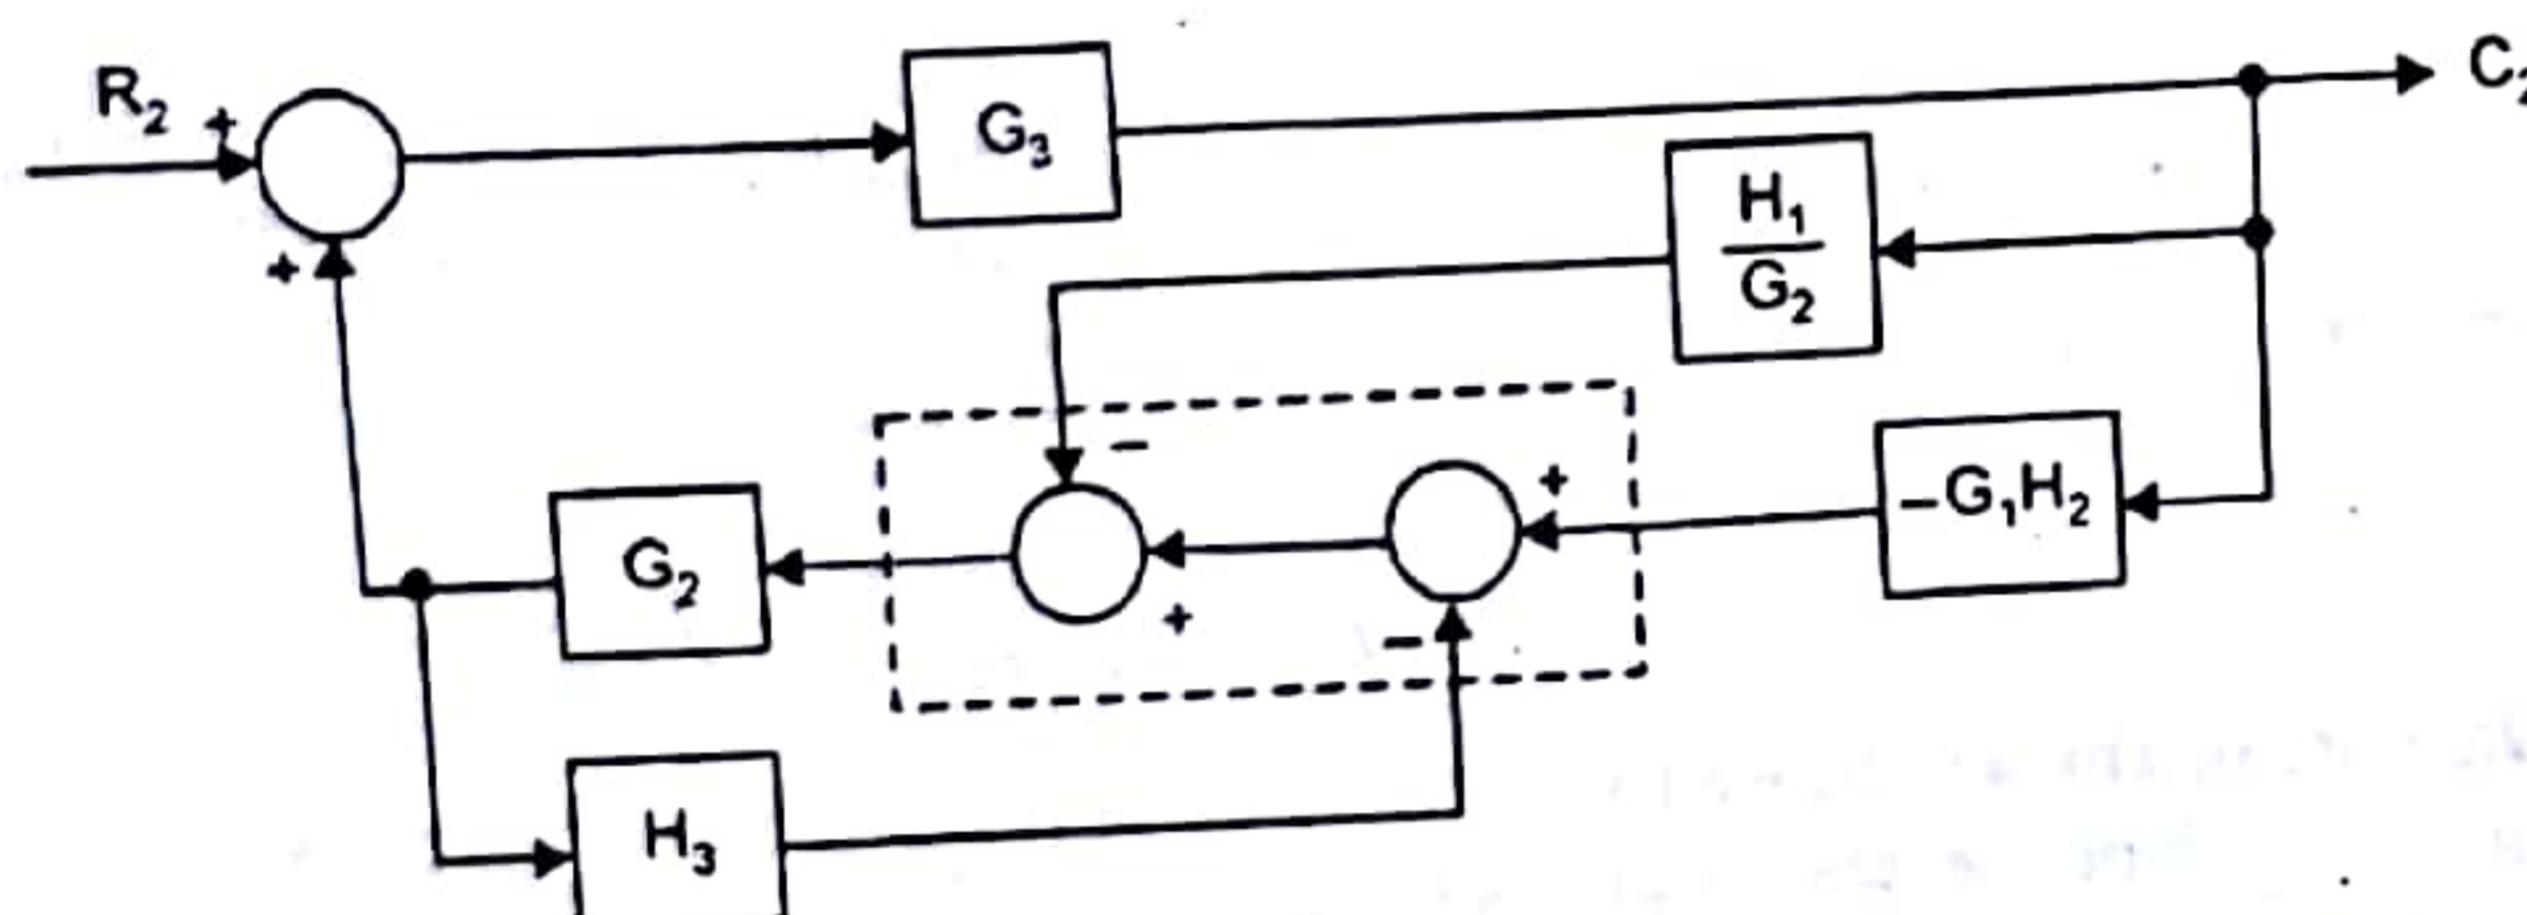
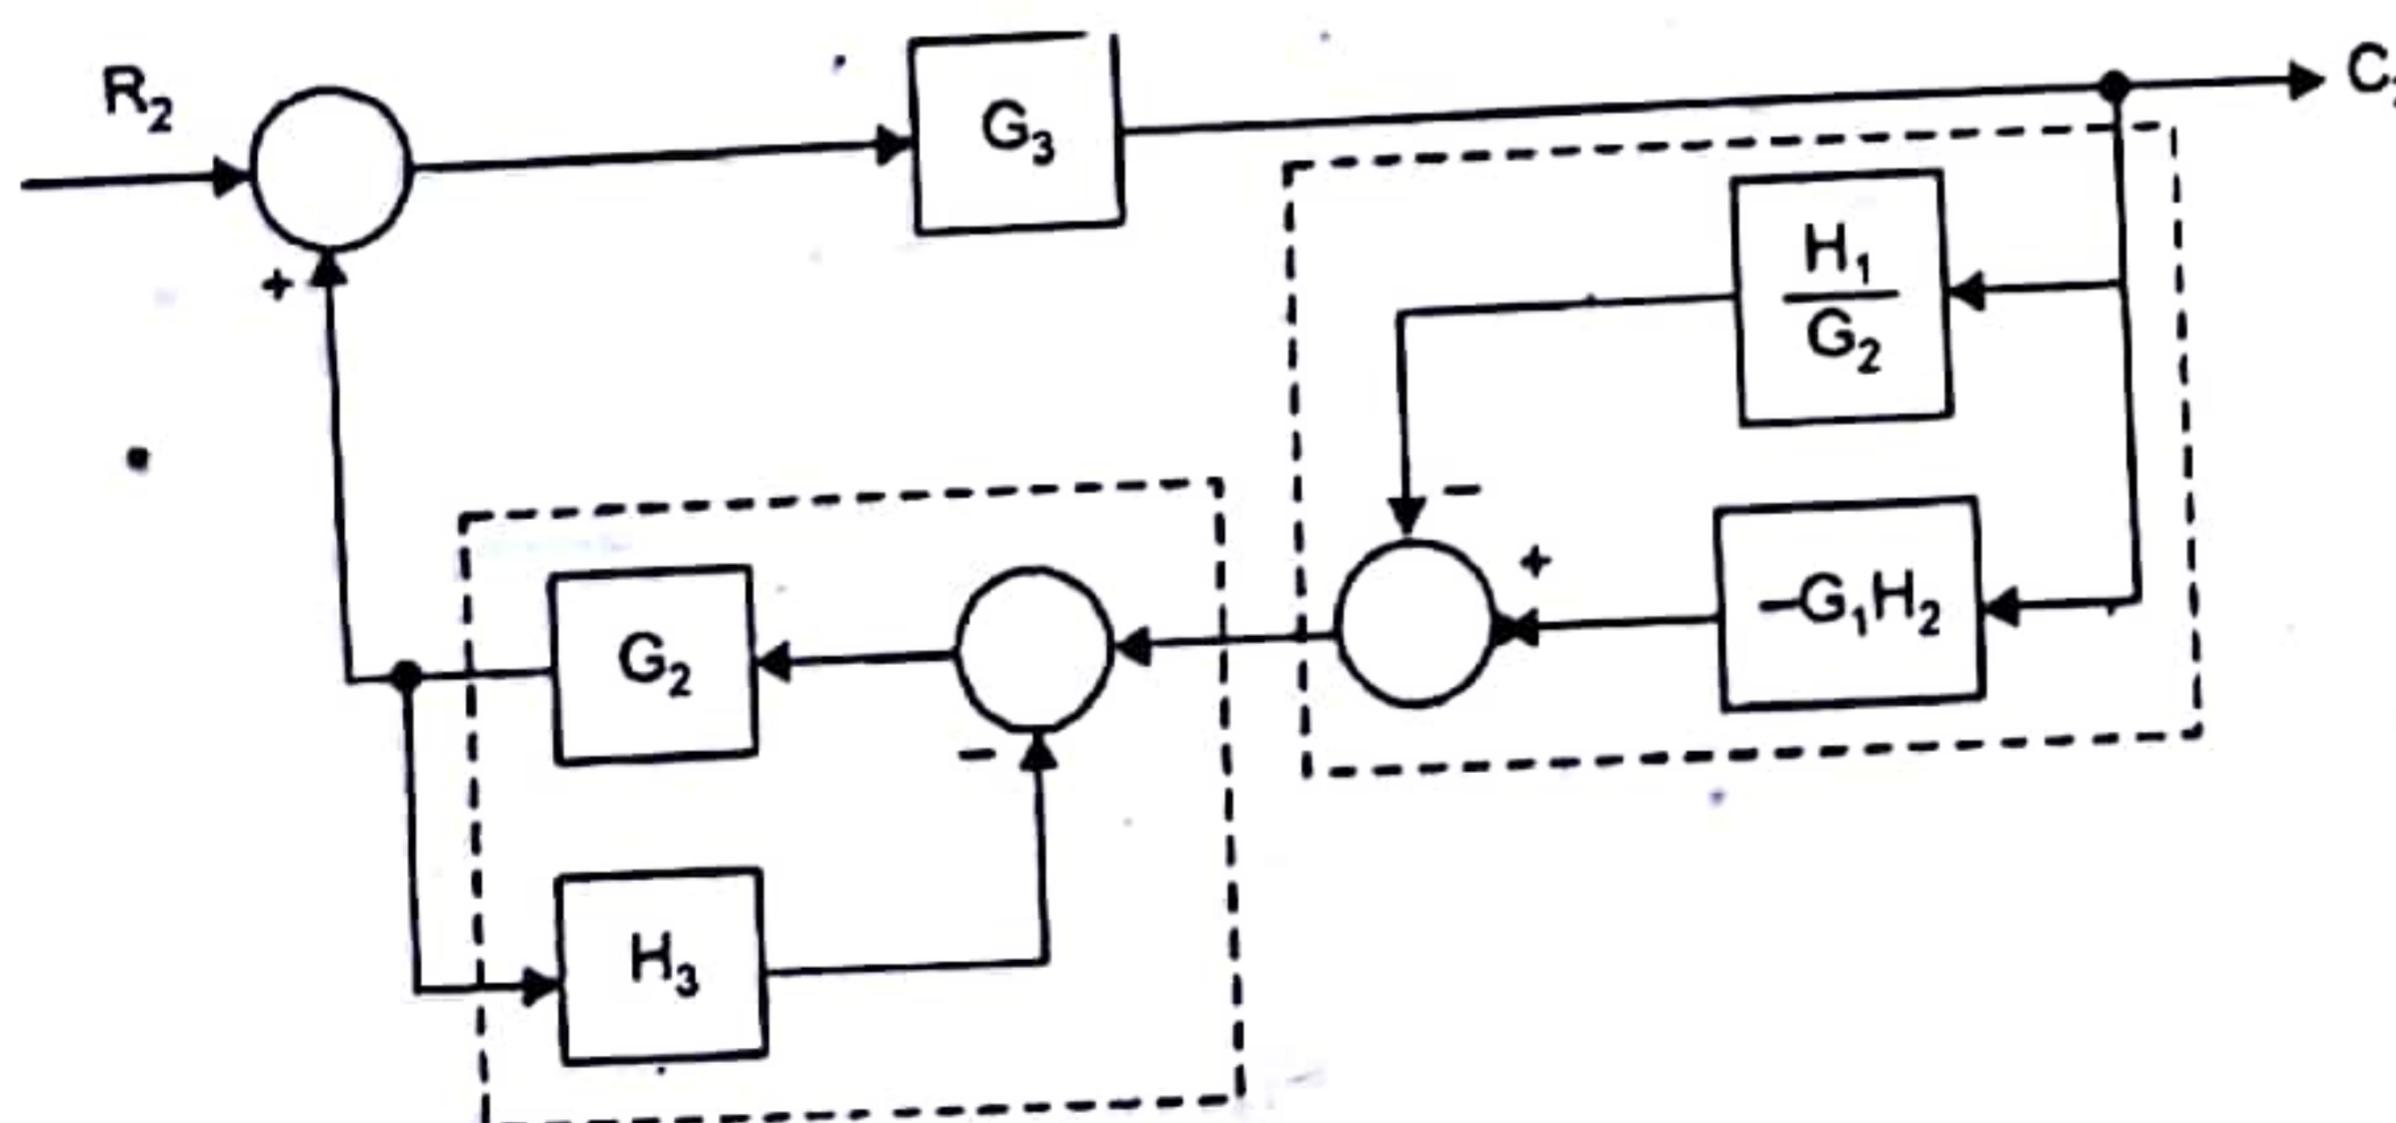
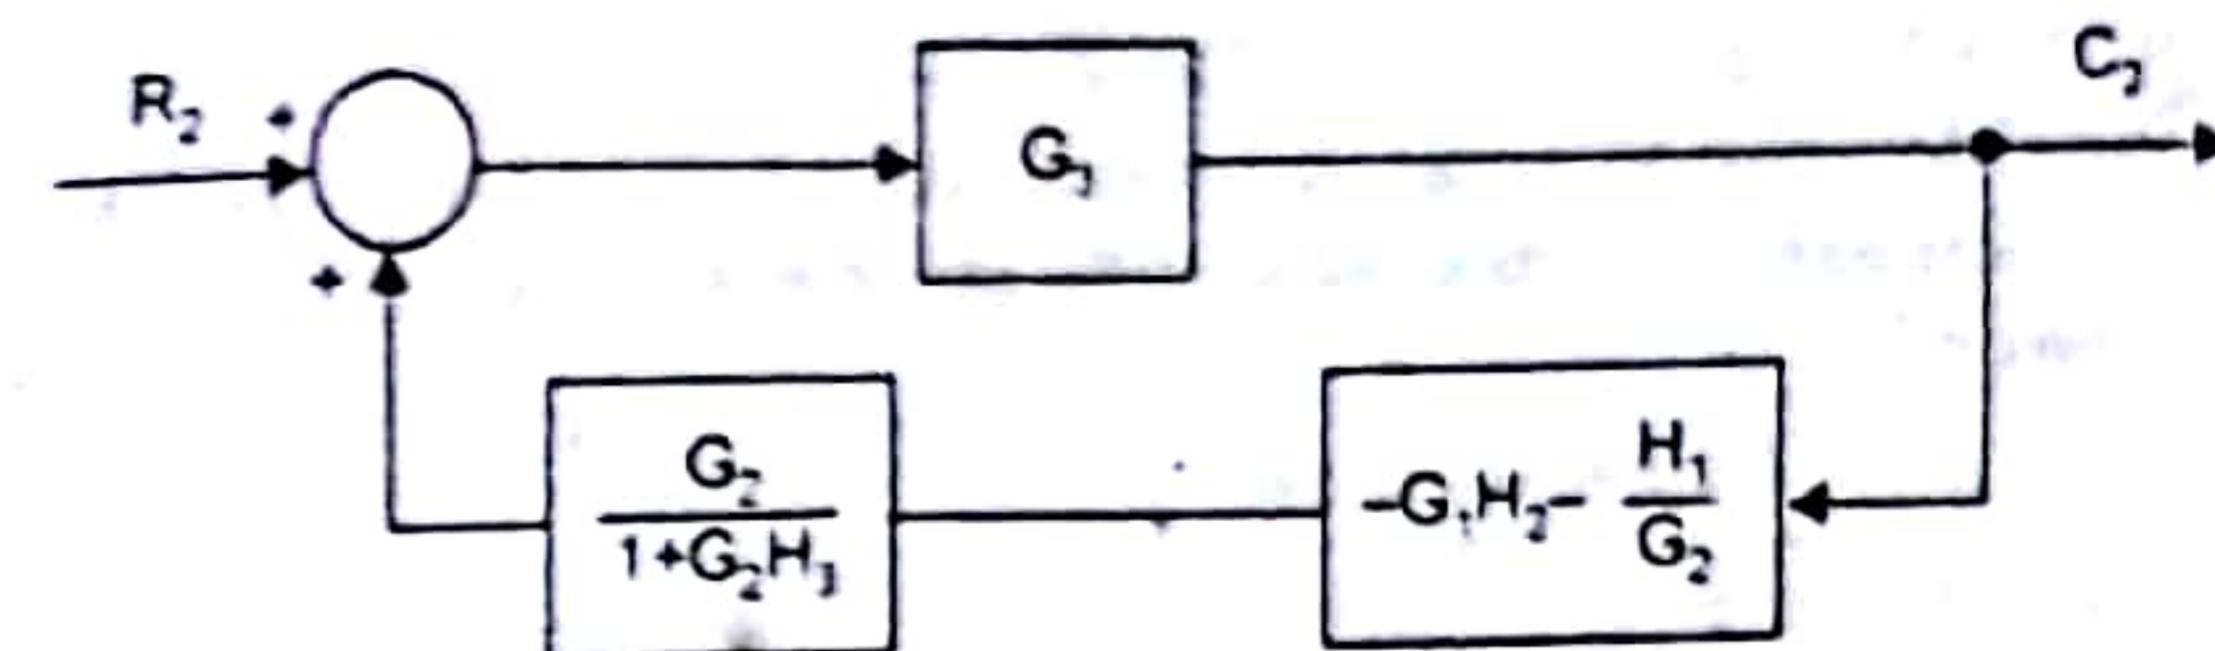
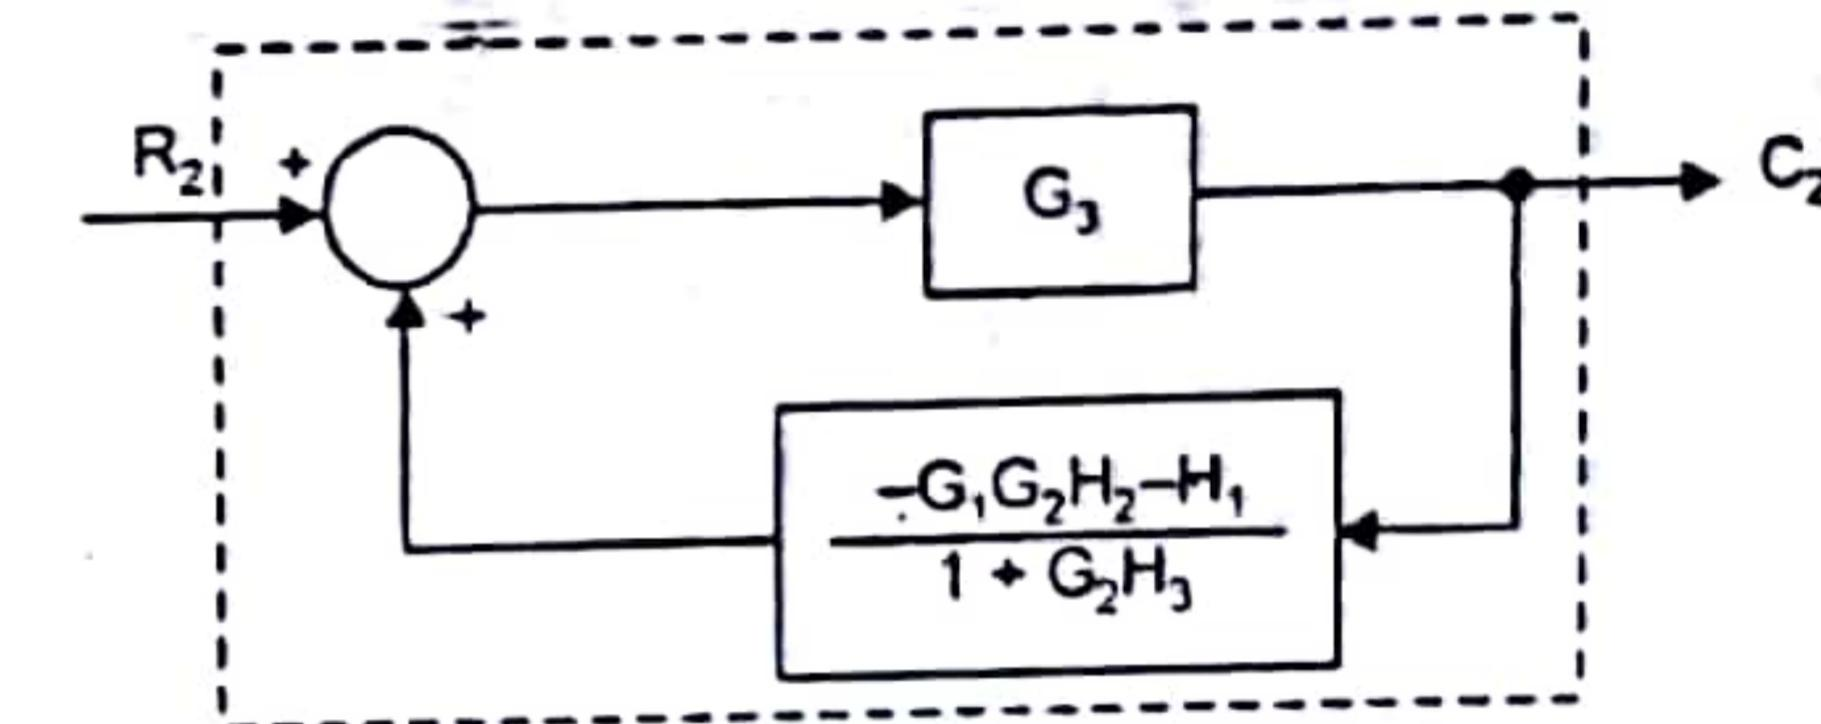

Fig. 10.
Fig. 11.
Fig. 12.
Fig. 13.
**Step 2 :** Moving the summing point before  $G_2$  in Fig. (9), the block diagram will be as shown in Fig. 10.
**Step 3 :** Interchanging the summing points in Fig. 10, the block diagram will be as shown in Fig. 11.
**Step 4 :** Eliminating the loop and combining the parallel block in the feedback path in Fig. 11, the block diagram is shown in Fig. 12.
**Step 5 :** Combining the blocks in cascade in Fig. 12, the block diagram is shown in Fig. 13.
**Step 6 :** Eliminating the only loop in Fig. 13, the transfer function will be given by
Figure 11 shows the response  $c(t)$  of Eq. (10) for  $0 < \xi < 1$ . It is a sinusoid decaying on an exponential envelope.